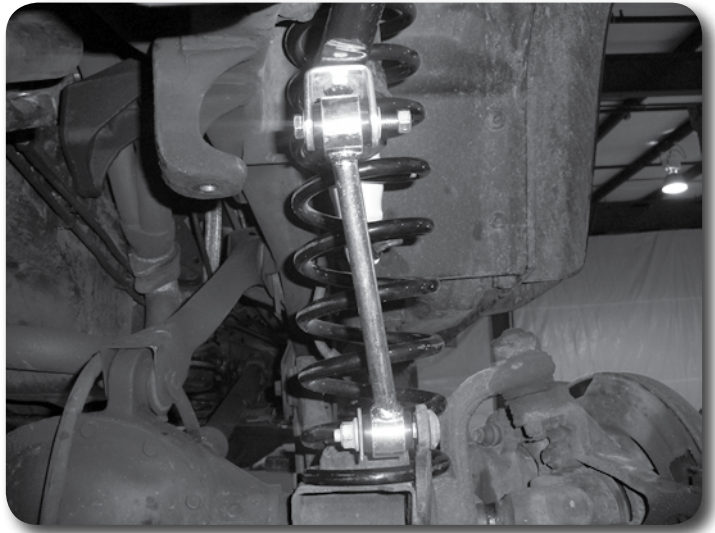

Figure 8
25. Attached the new sway bar links to the axle mount with the factory hardware and to the new sway bar u-bracket with 3/8" x 2-1/2" bolts, nuts and washers run from inside out. The end with the smaller ID sleeve will mount to the u-bracket. When mounted correctly, the links will taper in toward the center of the vehicle as the run from the axle to the sway bar **Figure 8**. Torque the factory hardware to 55 ft-lbs and 3/8" hardware to 30 ft-lbs.